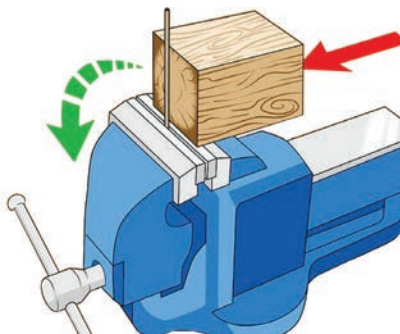

Fig. 9.33 Use a vice to bend the wire
- Another way to bend the wire is to use a vice. Use a block of wood to ensure even bending as shown in Fig. 9.33.